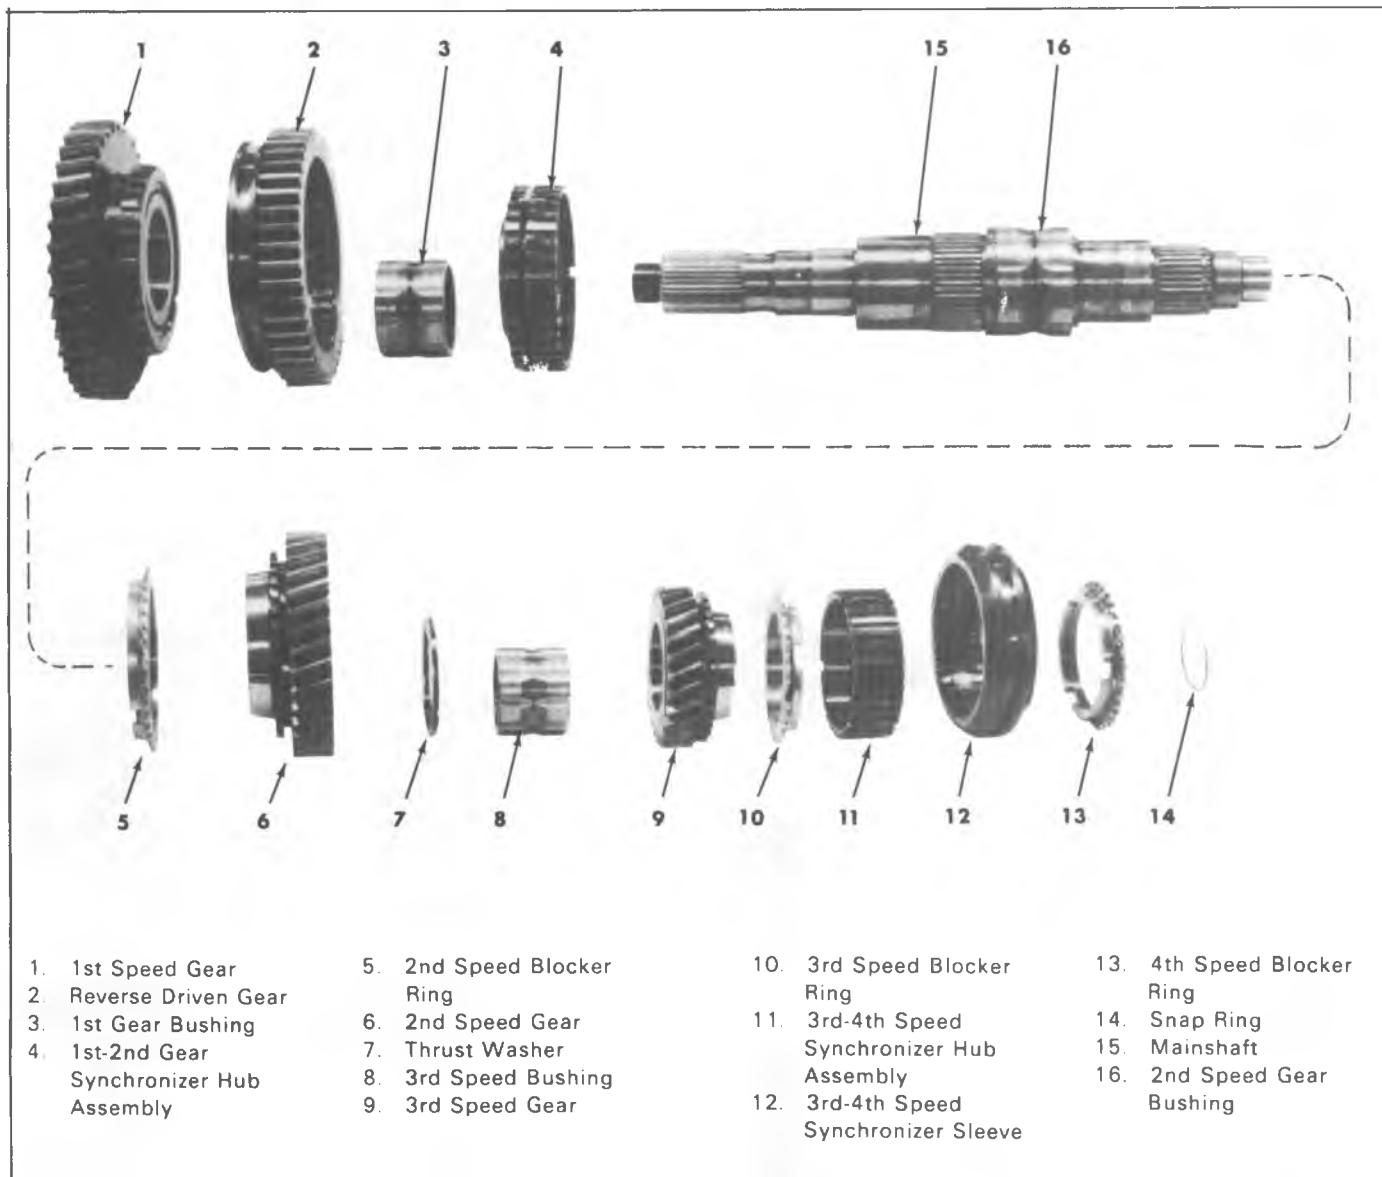

Fig. 7B-14L-Mainshaft Assembly Exploded View
**MAINSHAFT ASSEMBLY****Disassembly (Fig. 7B-14L)**